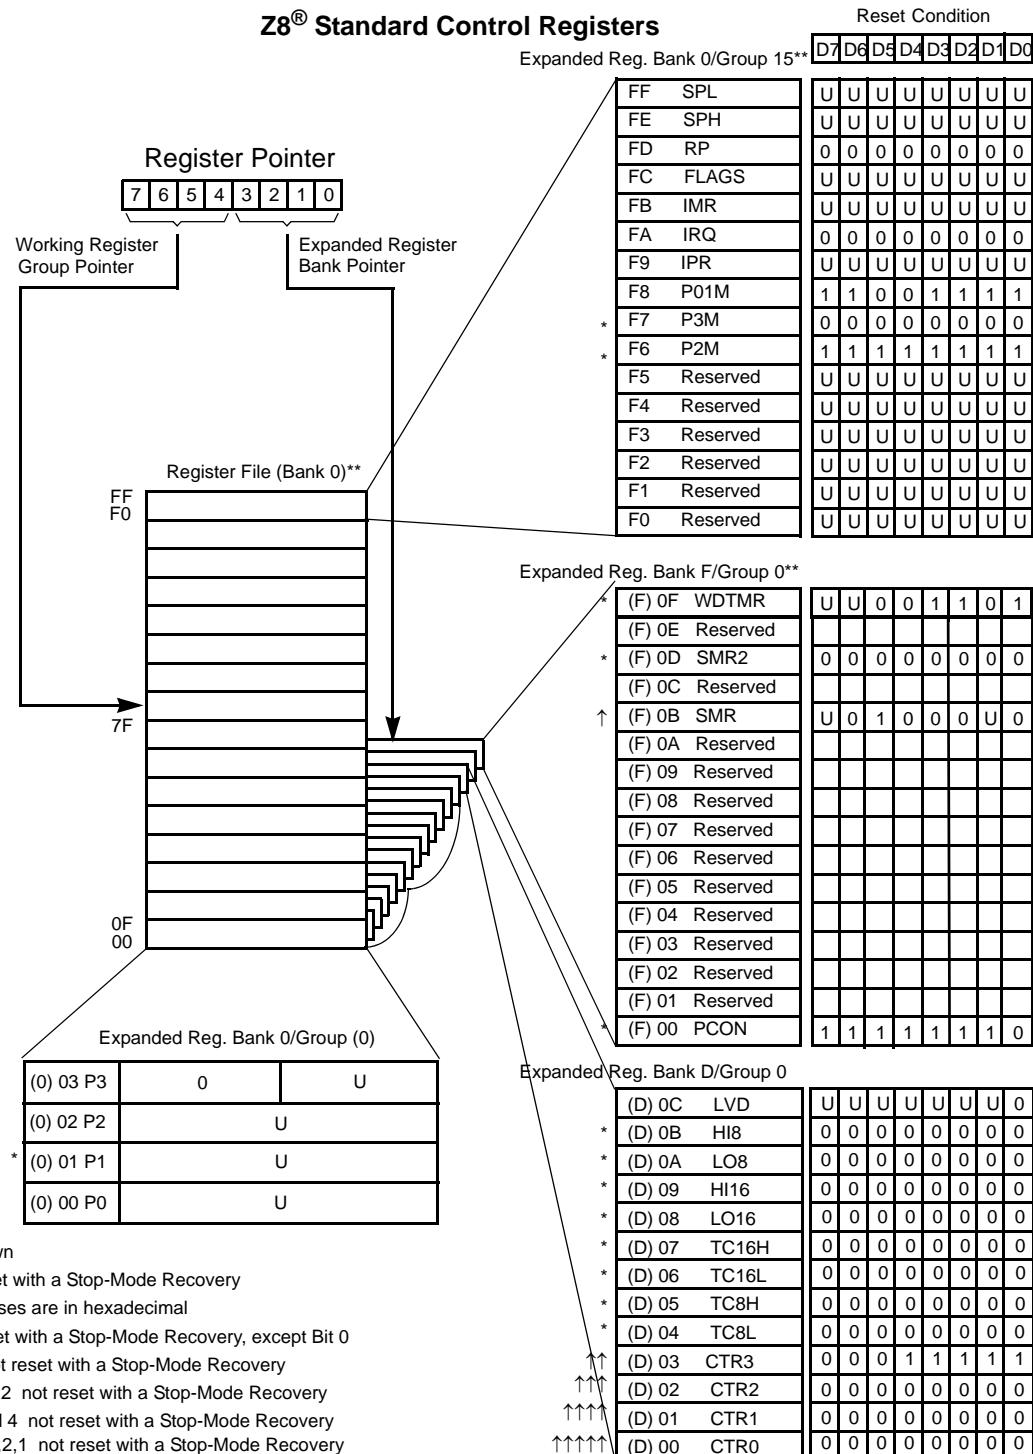

Figure 15. Expanded Register File Architecture
- ▶ **Note:** An expanded register bank is also referred to as an expanded register group (see Figure 15).
Example: Z8 GP: (See Figure 15 on page 26)